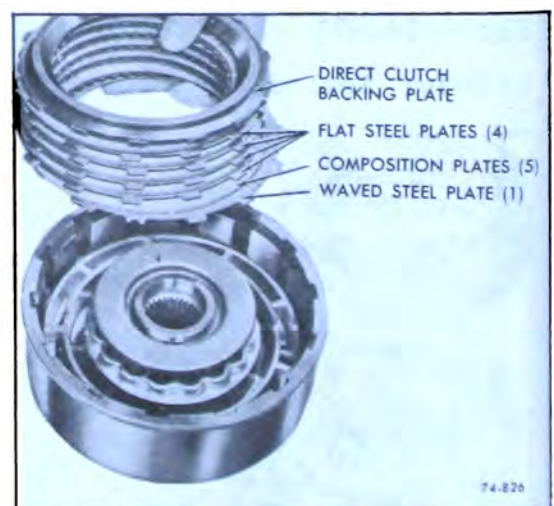

Figure 74-689
8. Lubricate with transmission fluid and install five (5) compo-
sition and five (5) steel clutch plates, starting with the waved steel and alternating steel and composition. See Figure 74-689.